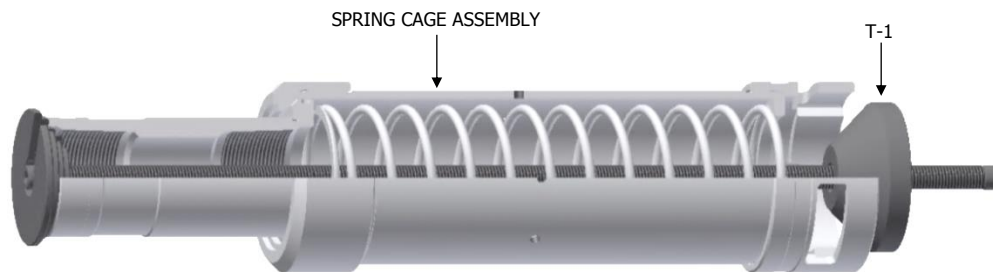

Fig. 4
- K-1.1.4) Compress compression spring (4) with assembly tool (T-1) (Fig. 4).
- K-1.1.5) Align threaded holes in spring cage (5) with recessed holes in top sub (1). Screw shear screws (3) into spring cage (5). Tighten until shear screws (3) make contact with top sub (1). Back shear screws (3) out 1/4 turn.